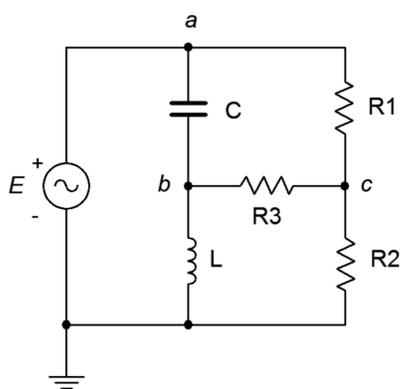

Figure 5.35
61. Find voltage  $v_{bc}$  in the circuit of Figure 5.35 through the use of one or more delta-Y conversions.  $E = 10\angle 0^\circ$ ,  $R_1 = 1\text{ k}\Omega$ ,  $R_2 = 2\text{ k}\Omega$ ,  $R_3 = 3\text{ k}\Omega$ ,  $X_C = -j4\text{ k}\Omega$  and  $X_L = j8\text{ k}\Omega$ .